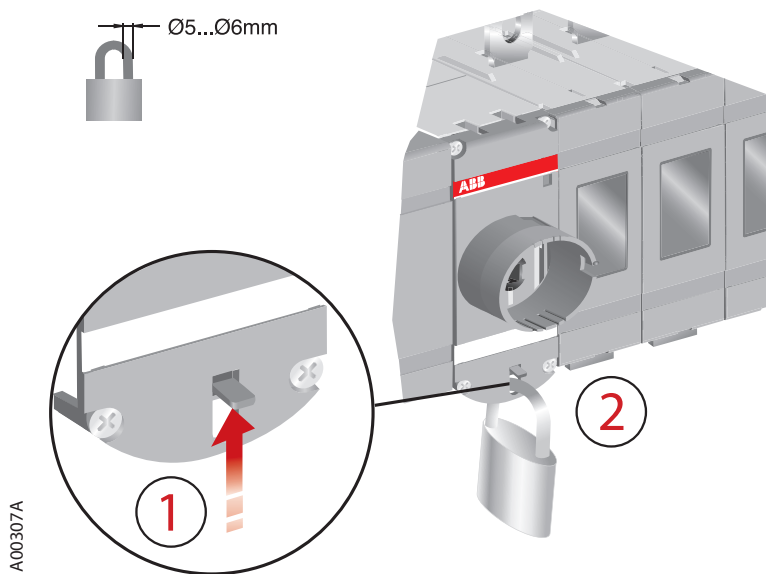

Fig. 6-7 Locking electrical control
2. Place the padlock under the latch, see Figure 6-7.